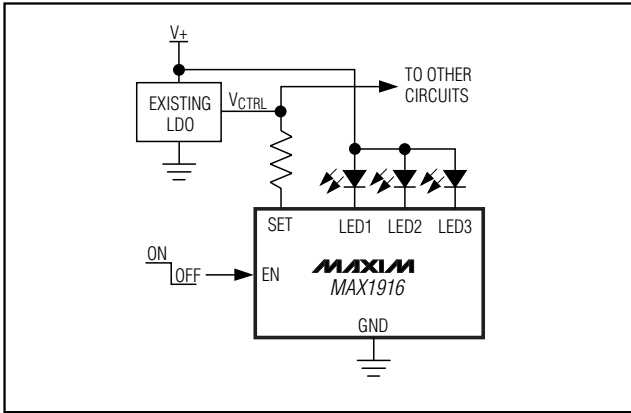

Figure 2. Very Low-Cost, High-Efficiency Solution
- 1) Very Low-Cost, High-Efficiency Solution (Figure 2). A battery (single Li+ or three NiMH cells) powers the LEDs directly. This is the least expensive and most efficient architecture. Due to the high forward voltage of white LEDs (3.3V), the LED brightness may dim slightly at the end of battery life. The MAX1916's current-regulating architecture and low dropout greatly minimize this effect compared to using simple ballast resistors. The enable function of the MAX1916 turns on and off the LEDs. An existing low-dropout regulator is used as  $V_{CTRL}$ .